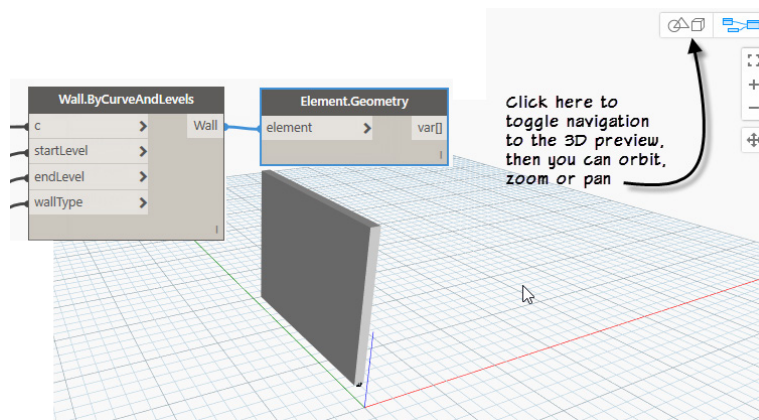

FIGURE 23
23. Wire the output of the **Wall** node into this node (see Figure 23).